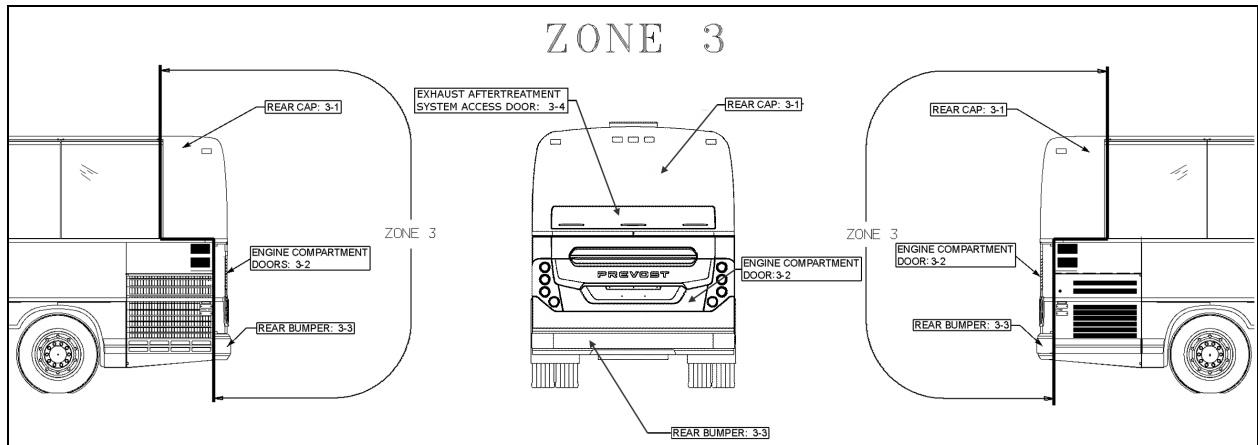

FIGURE 46: ZONE 3
1. To adjust the door VERTICAL position, loosen the bolts (4 on each side) holding the door supporting arm and gas springs bracket to the vehicle structure (Figure 46).
2. To adjust the door LATERAL position, loosen the bolts (3 on each side) holding the door supporting arm and gas springs bracket to the door (Figure 46).
on each side of the door opening (Figure 46).